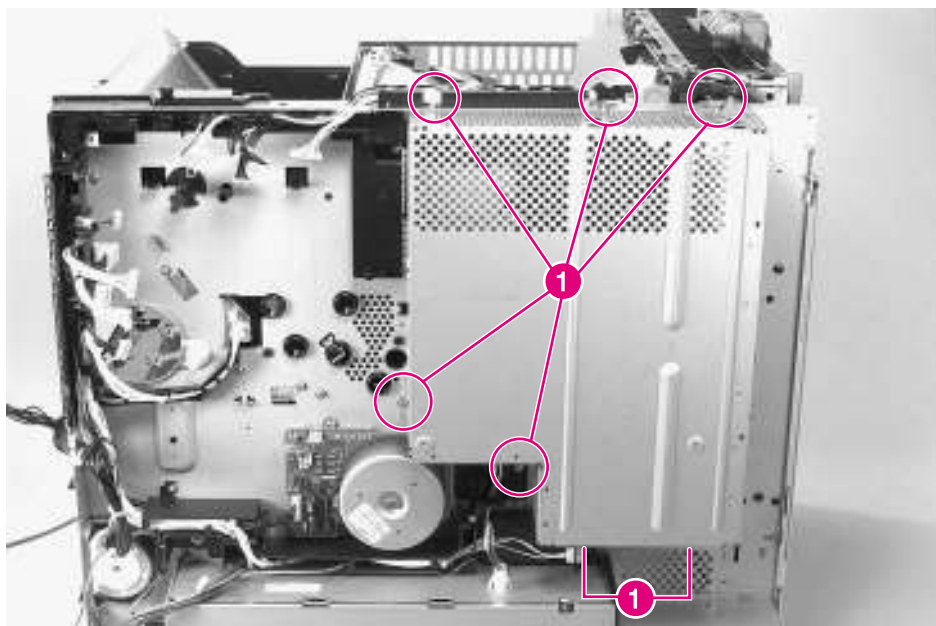

Figure 6-44 Output Paper Sensor PCA (1 of 4)
- 2 Remove 7 screws (figure 6-44, callout 1), and remove the Formatter PCA cage.